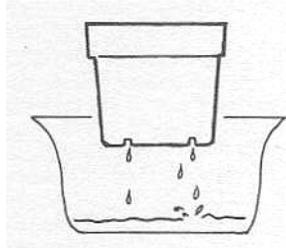

Fig. 5. Drain water from saturated medium
4) Once the medium has been thoroughly saturated, elevate the pot above the bottom of the bucket or pan receptacle and remove the tape from the holes. Water will drain from the pot (see Figure 5); allow the pot to drain until no more water comes out. Measure the amount of water that has collected in the receptacle. This volume of "drained water" is equivalent to the air space in the drained medium.